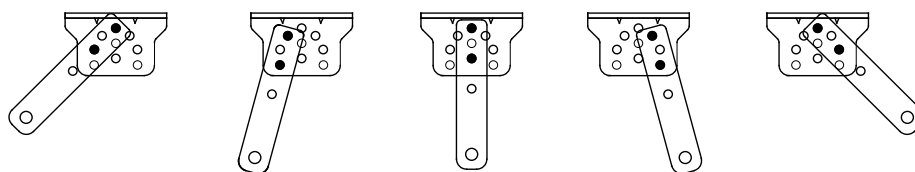

Figure 5
1. The connecting bracket and the wall bracket can be connected according to different conditions, please refer to figure 5.